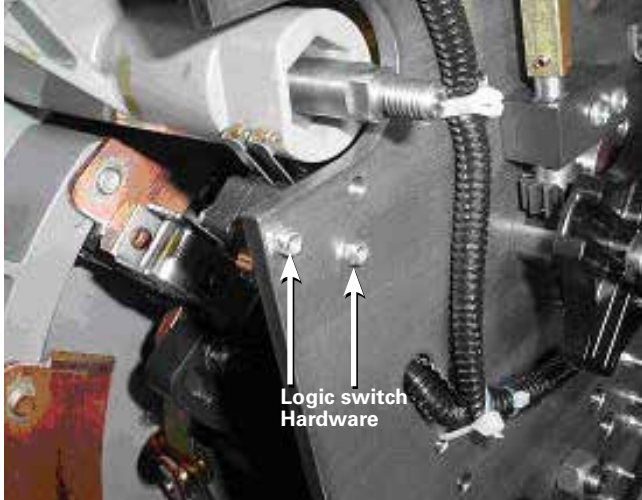

Figure 6. Reversing logic hardware.
5. Use a small screw driver (or 5/32" Allen wrench) and a 1/4" wrench to loosen and remove the self-locking nuts and reversing logic switch mounting screws. See Figures 6 and 7.